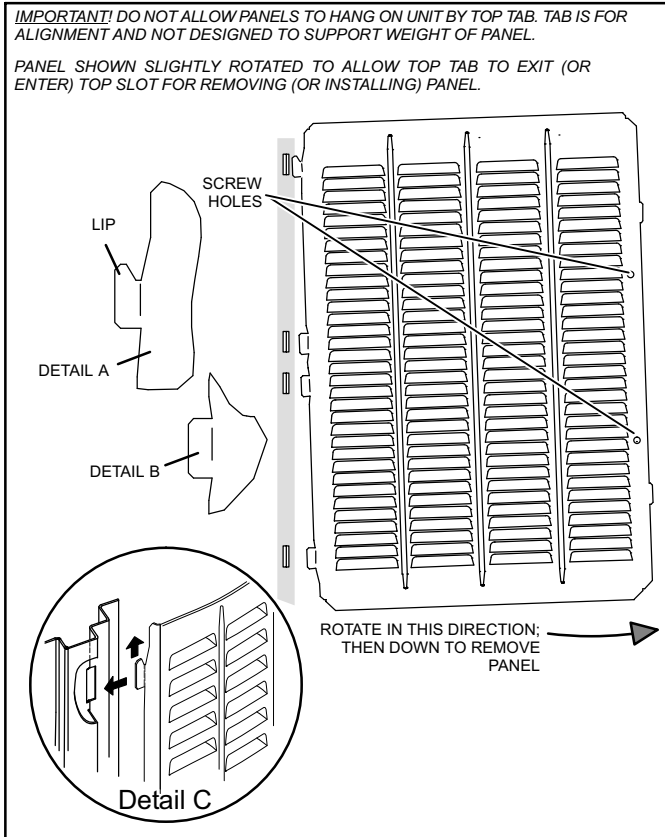

Figure 12. Removing/Installing SmartHinge™ Panels (Details A, B and C)
1. Remove two screws, allowing the panel to swing open slightly as illustrated in figure 12.
2. Rotate bottom corner of panel away from hinge corner post until lower three tabs clear the slots as illustrated in figure 12, detail B.
3. Move panel down until lip of upper tab clears the top slot in corner post as illustrated in figure 12, detail A.
2. With a continuous motion slightly rotate and guide the lip of top tab inward as illustrated in figure 12, details A and C, then upward into the top slot of the hinge corner post.